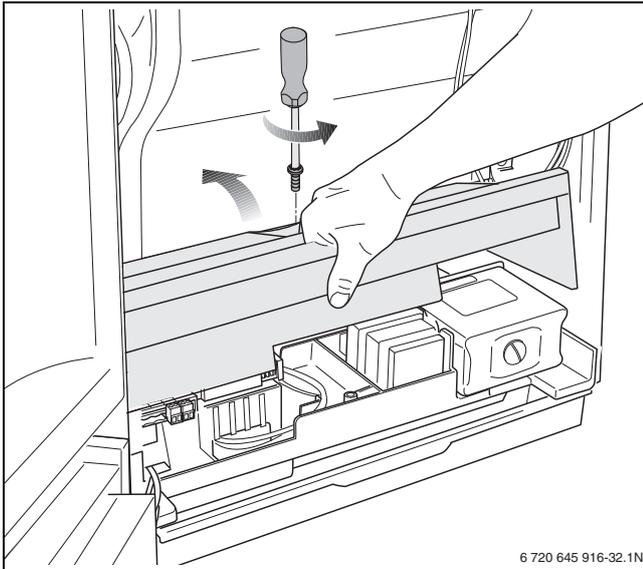

Fig. 36 Removing the cover
- ▶ Remove the screw to release the cover over the electrical connections and pull the cover upwards (→ fig. 36).